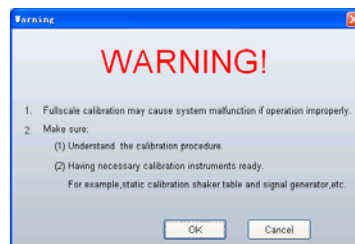
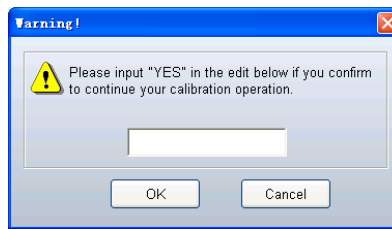
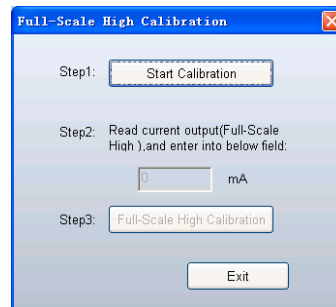

Figure 32
Figure 33
Figure 34
4. Click the button *Full-scale high Calibration*. Click OK button in the WARNING window (figure 32). Enter YES in the Warning dialogue (figure 33) and click OK to open the calibration window (figure 34). Follow the steps showed in the window to implement calibration. First, click the button *Start Calibration* in step1, Wait till the multimeter outputs a right value, then read the output current value from multimeter after it settled down. Enter this value (three significant decimal digits) into the text area in step2. After that, click the button *Full-scale high Calibration* in step3 to download. Click Exit to exit the high calibration.